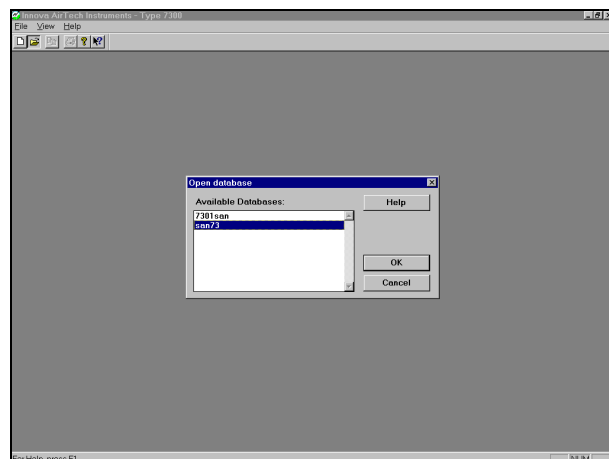

Fig 4.2 The Open File dialogue
1. Pull down the **File** menu. Click on **Open**. The Open Database dialogue will be displayed, Fig.4.2.